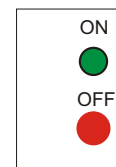

Fig 4.1
4.1 Motor start (Fig. 4.1)
Operation switch is a two button switch, located at pump right side. (Fig.4.1)